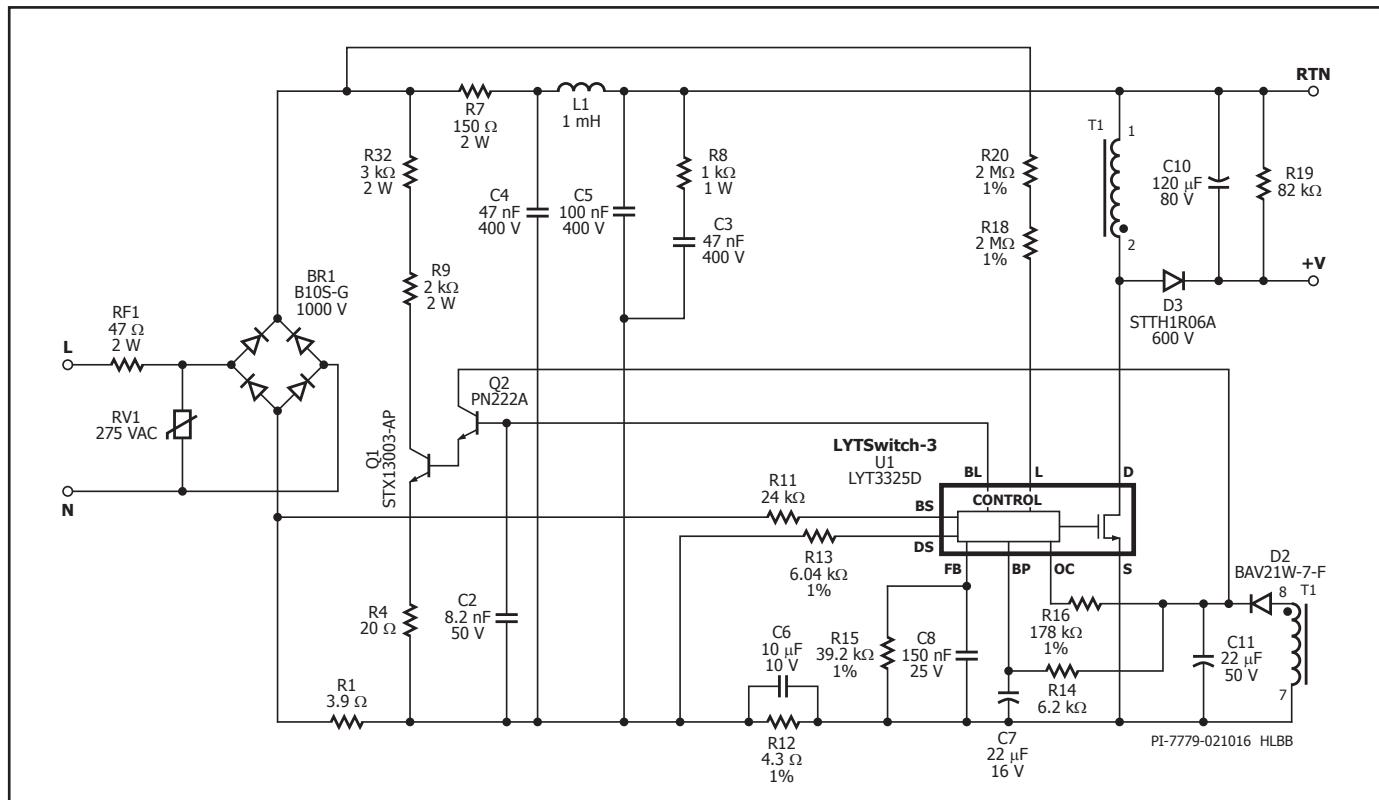

Figure 7. DER-524 8 W, 72 V, 115 mA Non-Isolated Dimmable A19 LED Bulb Driver using LYT3325D.
The circuit shown in Figure 7 is configured as a buck-boost power supply utilizing the LYT3325D from the LYTSwitch-3 family of ICs. This type of LED driver configuration is common for dimmable bulb applications where high dimmer compatibility, accurate regulation, high efficiency, high power factor and low ATHD are required along with low component count for high reliability. The output can drive an LED load from 68 V to 76 V with a constant output current of 115 mA  $\pm 3\%$  across an input range of 195 VAC to 264 VAC and can operate in maximum ambient temperature of 100 °C with good margin below the thermal foldback protection point. It has an efficiency of greater than 86%, very low ATHD% (less than 20%) and high power factor of greater than 0.9 measured across the input range.
AC input power is rectified by bridge BR1. A 1000 V voltage rating is recommended (the maximum clamp voltage for a typical 275 V varistor is 720 V). The rectified DC is filtered by the input capacitors C4 and C5. Too much capacitance degrades power factor and ATHD, so the values of the input capacitors were adjusted to the minimum values necessary to meet EMI with a suitable margin. Inductor L1, C4 and C5 form a  $\pi$  (pi) filter, which attenuates conducted differential and common mode EMI currents. Optional resistor R10 across L1 damps the Q of the filter inductor to improve filtering without reducing low frequency attenuation. Fuse RF1 in Figure 7 provides protection against catastrophic failures such as short-circuit at the input. For cost reduction, this can be replaced by a fusible resistor (typically a flame proof wire-wound type) which would need to be rated to withstand the instantaneous dissipation induced when charging the input capacitance when first connected to the input line.
Selection of fuse RF1 in Figure 7 type and rating is dependent on input surge requirements. Typical minimum requirement for bulb application is 500 V differential surges. This design meets a 1 kV surge specification, so a 47  $\Omega$  fusible resistor in Figure 7 was used. A fast-blow fuse with high ampere energy ( $I^2T$ ) rating could also be used.
The bias winding voltage is proportional to the output voltage (controlled by the turns-ratio between the bias supply and output-main winding). This allows the output voltage to be monitored without the need for output-side feedback components. Resistor R16 in Figure 7 converts the bias voltage into a current which is fed into the OUTPUT COMPENSATION (OC) pin of U1. The OUTPUT COMPENSATION pin current is also used to detect output overvoltage which is set to 30% above the nominal output voltage. Once the current exceeds the  $I_{Oov}$  threshold the IC will trigger a latch, which disables switching which prevents the output from rising further. An AC recycle is needed to reset this protection mode once triggered.